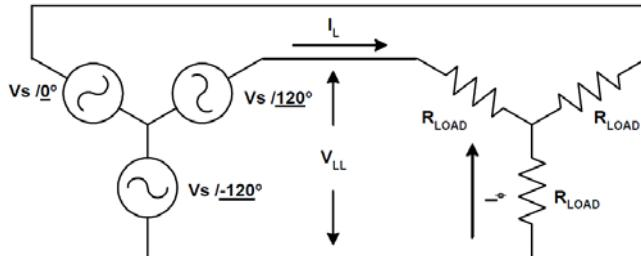

FIGURE 3.3
- 2) For the circuit shown in Figure 3.3 with  $RL = 85.7\Omega$  and  $V_s = 120 \text{ V}_{\text{ac}}$